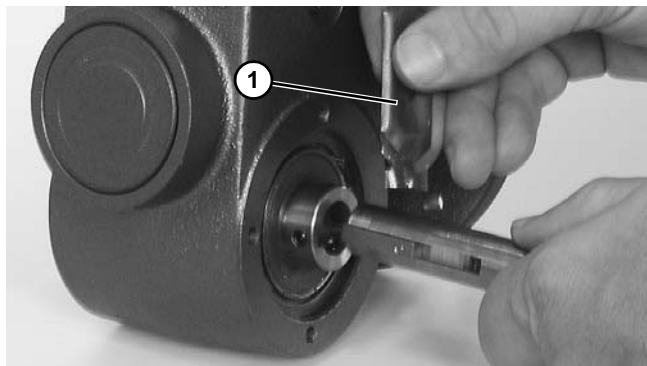

Figure 39
9. Apply anti-seize (**Figure 39, item 1**) to shaft.